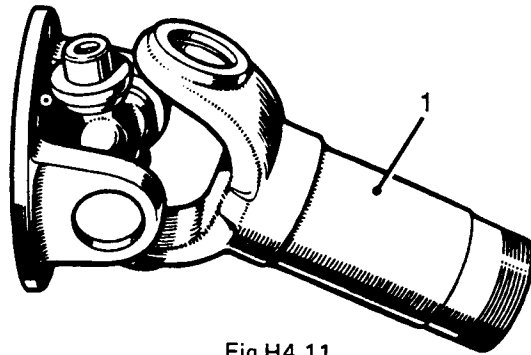

Fig H4.11
- (18) Refer to Fig H4.11. Withdraw the splined sleeve (1) from the flanged yoke.